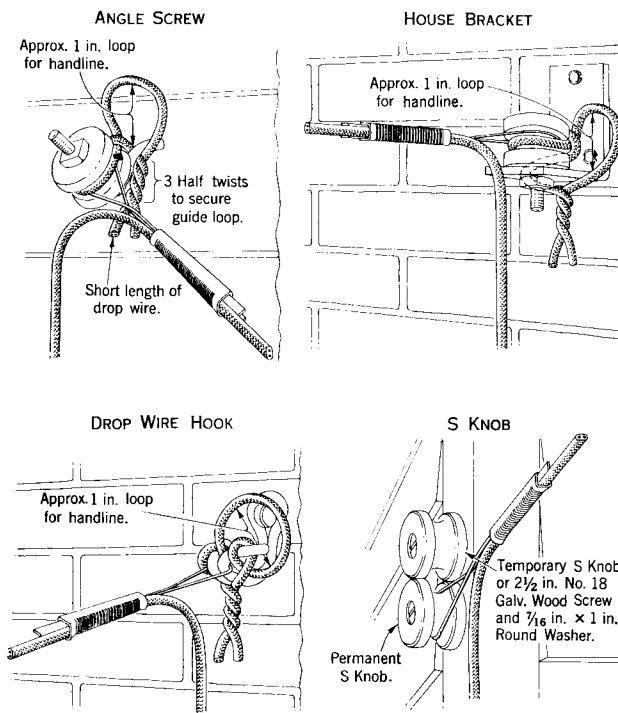

Fig. 2 – Temporary Guide Loop
- (1) Remove the C knob or the SC wire clip and the associated loop of drop wire from the first building attachment. Do not remove the drop wire clamp which supports the wire span.
- (2) Attach a temporary guide loop to the first building attachment, such as shown in Fig. 2, to prevent the handline used in releasing the excess tension from becoming accidentally disengaged from the building attachment.
- (3) Place a temporary drop wire clamp on the wire to be lowered, about one foot out in the span. Seat the clamp firmly on the wire.
- (4) Place a handline over the first building attachment and through the temporary guide loop. Tie the handline securely to the tail of the temporary drop wire clamp.
- (5) Return to the ground. Pull the handline sufficiently taut to remove tension from the original drop wire clamp and lash the handline to a substantial and secure support near the base of the building.